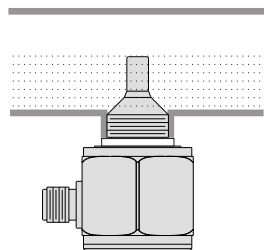

Fig. 3
- (3).When the fluid does not completely fill the pipe, SP must be installed below the pipe. And the fluid level must be higher than the tip of the SP.(See Fig. 3)